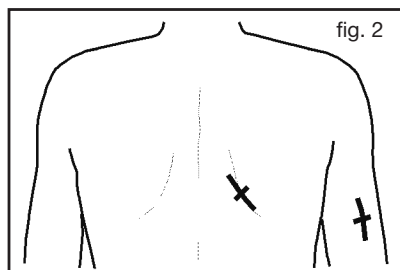

fig. 2
- Tricipital and scapular in males (fig. 2)
Oblique fold (45°), extending from supero-medial to inferolateral, measured just under the scapula tip (shoulder). (fig. 2)